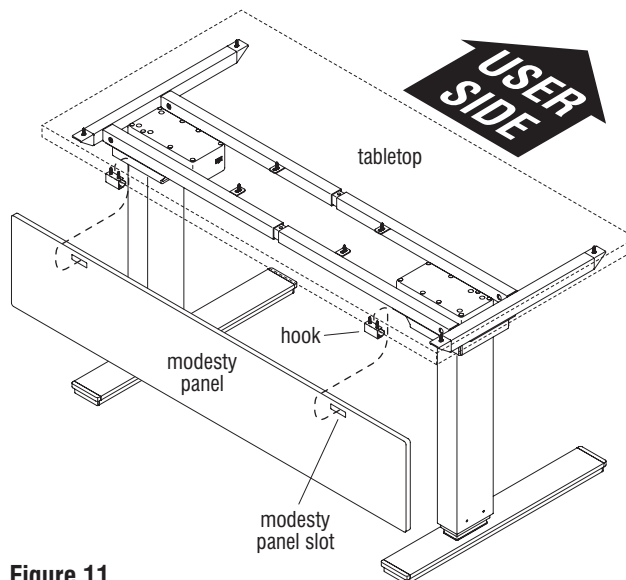

Figure 11
3. Position the modesty panel underneath the back, non-user side of the tabletop, near the hooks. Using the slots on the panel, hang the panel onto each hook (Figure 11, Details J & K).